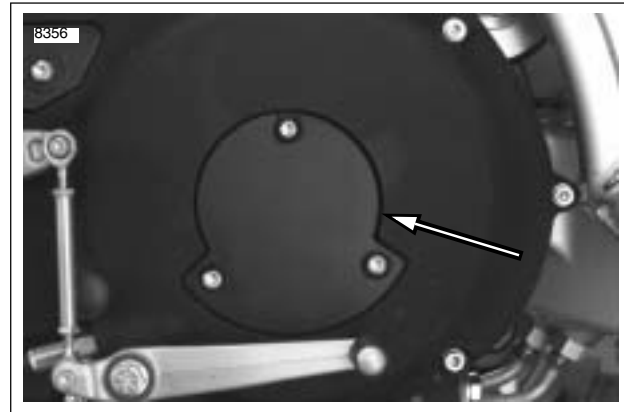

Figure 1-20. Clutch Inspection Cover
8. See Figure 1-20. Install clutch inspection cover tightening three fasteners and washers to 84-108 in-lbs (10-12 Nm).
3. See Figure 1-20. Remove three fasteners and washers from clutch inspection cover. Remove clutch inspection cover and gasket from primary cover.
8. See Figure 1-20. Install clutch inspection cover and **new** gasket using three fasteners and washers and tighten to 84-108 **in-lbs** (10-12 Nm).